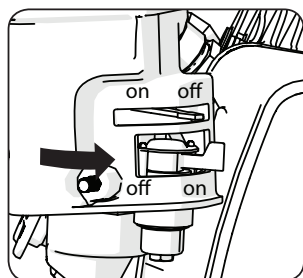

Fig 11
- Turn the fuel tap lever to the 'On' position. **(Fig. 11)**